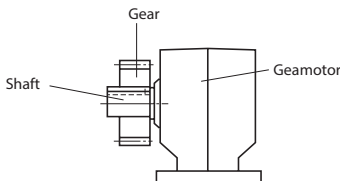
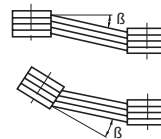

Fig.24
Fig.25
(2) When using a Chain Sprocket and Gear
- Install sprocket and gears so that their point of load application will be closer to the gearmotor side with respect to the length of the shaft. (Fig.24)
(3) When using a V-belt
- The parallelism and eccentricity (β) between two pulleys should be within $20'$. (Fig25)